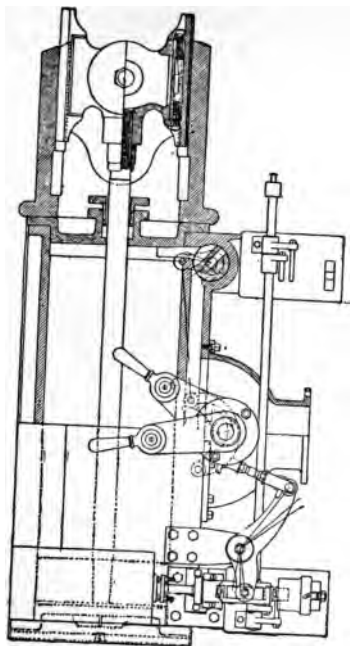
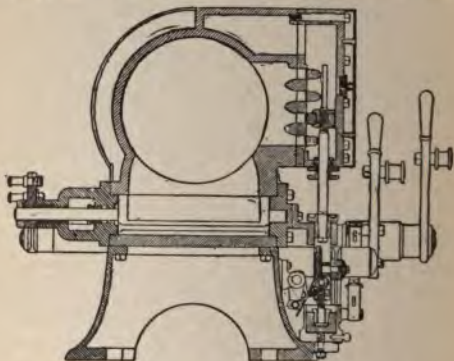

FIG. 133. ROLLINS ENGINE.
FIG. 134. ROLLINS ENGINE.
**A.** This engine bears in its general make up some resemblance to the Corliss, but in many respects, especially in the matter of valve adjustment, is entirely dissimilar. Fig. 133 shows the steam side of the cylinder with the wrist plate, steam valve operating mechanism, steam chest, etc., and a section of the exhaust valve. Fig. 134 is a section through the cylinder showing the steam valve and port valve connections. The wrist plate, from which motion is transmitted to the valves, is upon one side of the engine, and the motion is transmitted directly to the steam valve through the rod and bell crank. This bell crank lifts a block which engages with a plate which is connected to the valve stem, and which on being raised opens the valve. Each of these pieces has eight wearing surfaces and may be changed as wear takes place. The latch that holds